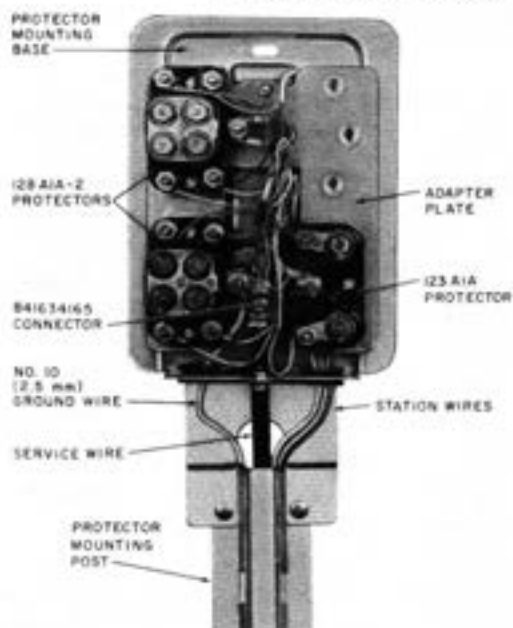

Fig. 24—93D1 (MD) Protector Mounting Installed on Protector Mounting Post
3.29 The 93D1 (MD) protector mounting is designed to house four 123- or 128-type protectors. It is intended to be mounted on a protector mounting post (PMP) where stations are served by buried service wire (Fig. 24) or may be installed on any flat surface.
See Fig. 24 and 27 for examples of service wire terminations.